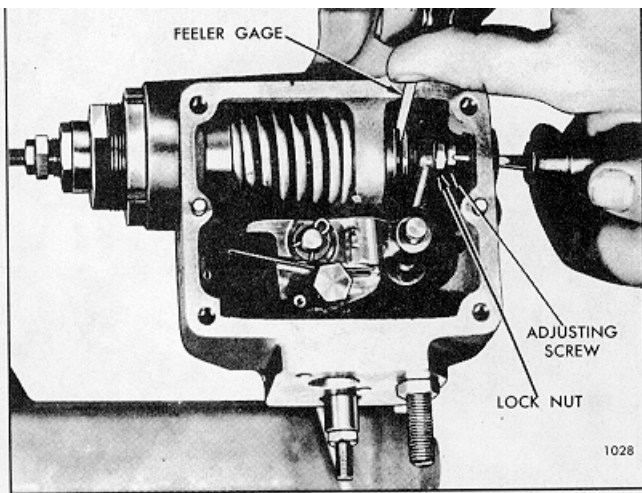

Fig. 4 Injector Rack with Adjustable Link and Spring Installed
controlled by hand or temporary adjustable link and spring at control lever tube, Fig. 4.
- A If an adjustable link has been used, it should be removed, Fig 4.